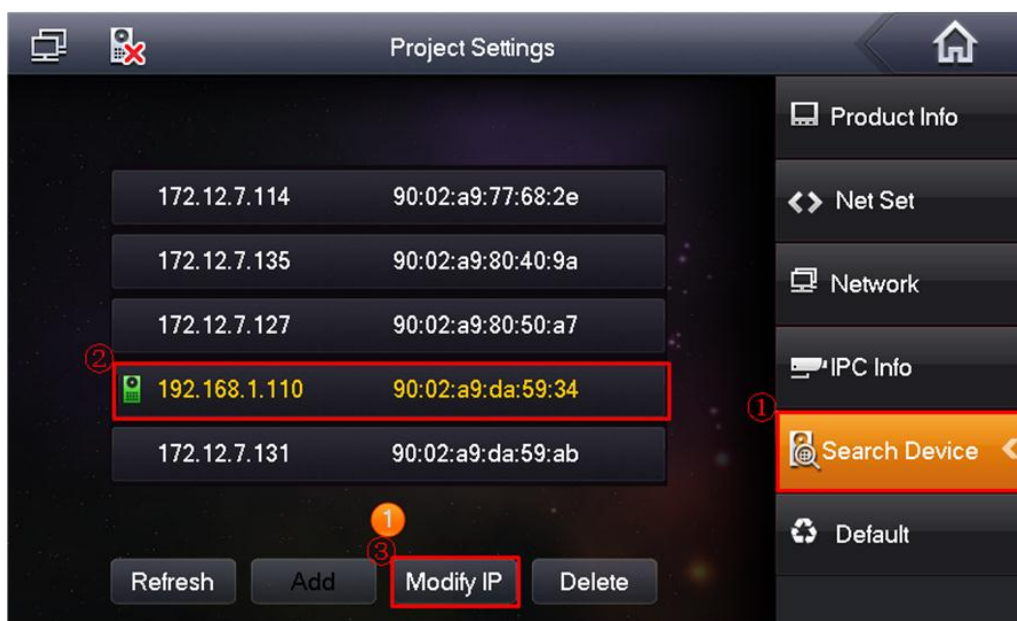

Figure 2-13
- On the digital VTH interface, from Settings->Project->002236, select Search device. See Figure 2-13.